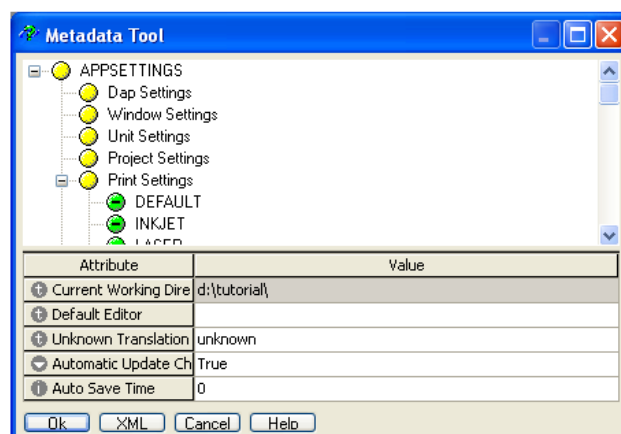

Figure 1.81. – Metadata Tool
1. On the *GX* menu, select *Global Settings | Advanced*. The advanced global settings will be displayed in the *Metadata Tool*, fig. 1.81.